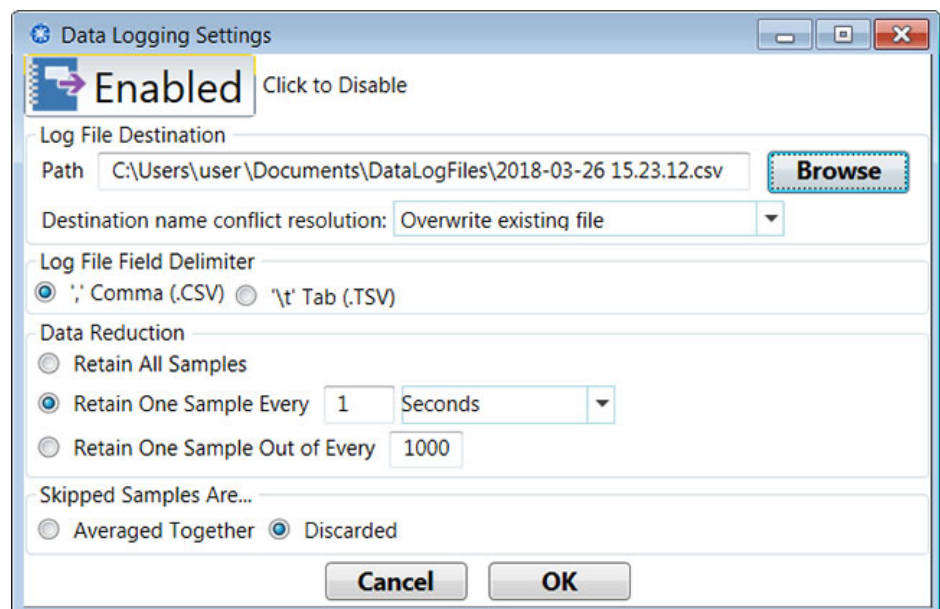

Figure 5-12. Home Tab – Data Logging Settings Dialog Box
- Select Data Logging Settings to display the dialog box shown in Figure 5-12, with the options that follow provide explicit control over settings.
The button at the top of the dialog box shown in Figure 5-12 clearly shows whether Data Logging is currently enabled.